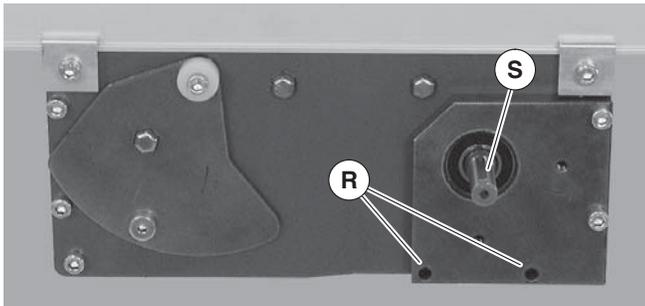

Figure 6
3. Locate drive output shaft (Figure 6, item S) and remove two (2) screws (R).